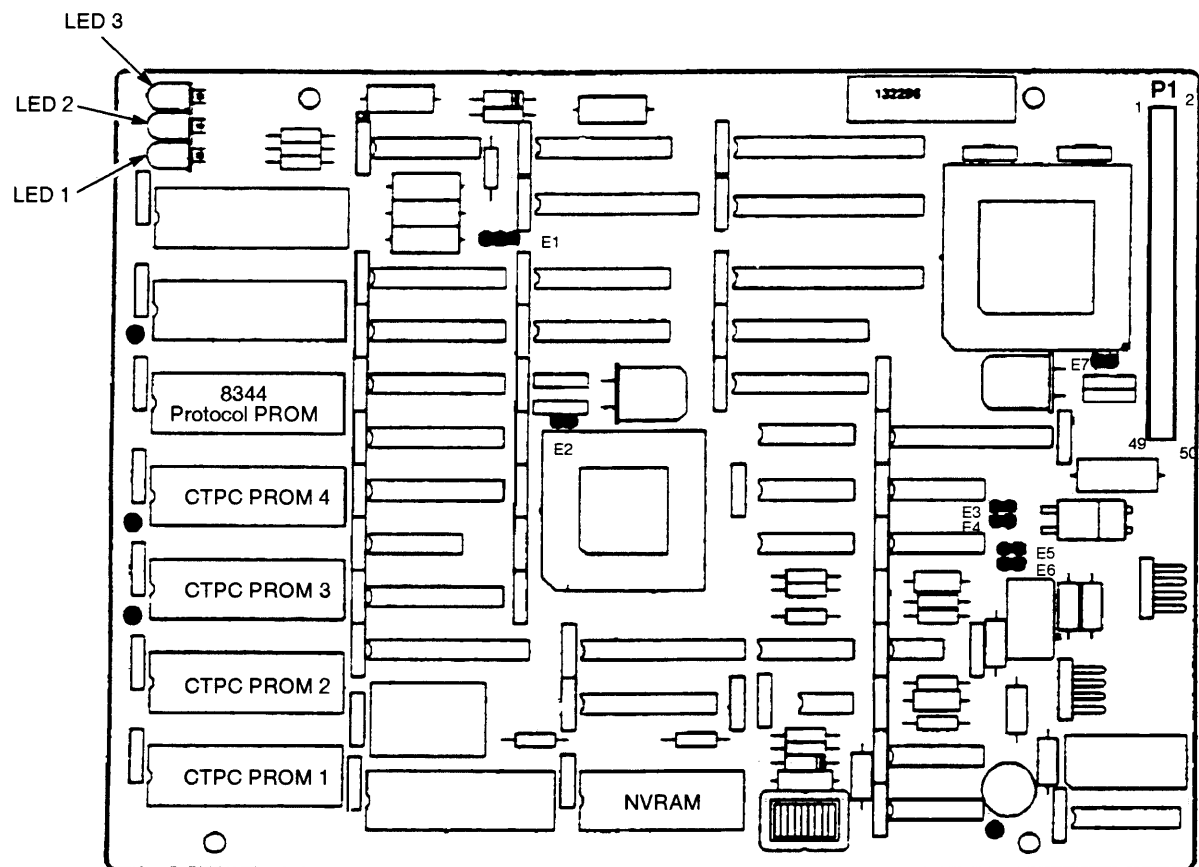

Figure 5-1. Diagnostic LED Locations
This procedure is a quick check of the Coaxial/Twinaxial Integrated Interface (CT) board on the IBM 6412 Model CT0 printer. You check CT operation by monitoring three diagnostic LEDs as the printer powers up. LED locations are shown in Figure 5-1.